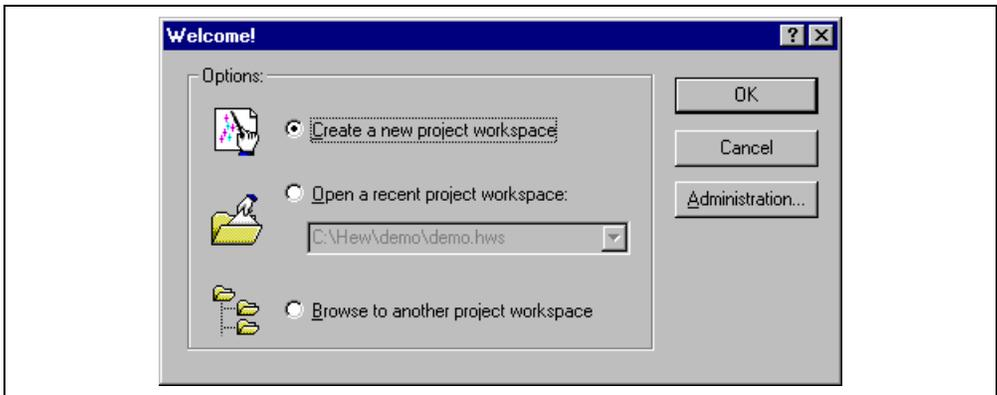
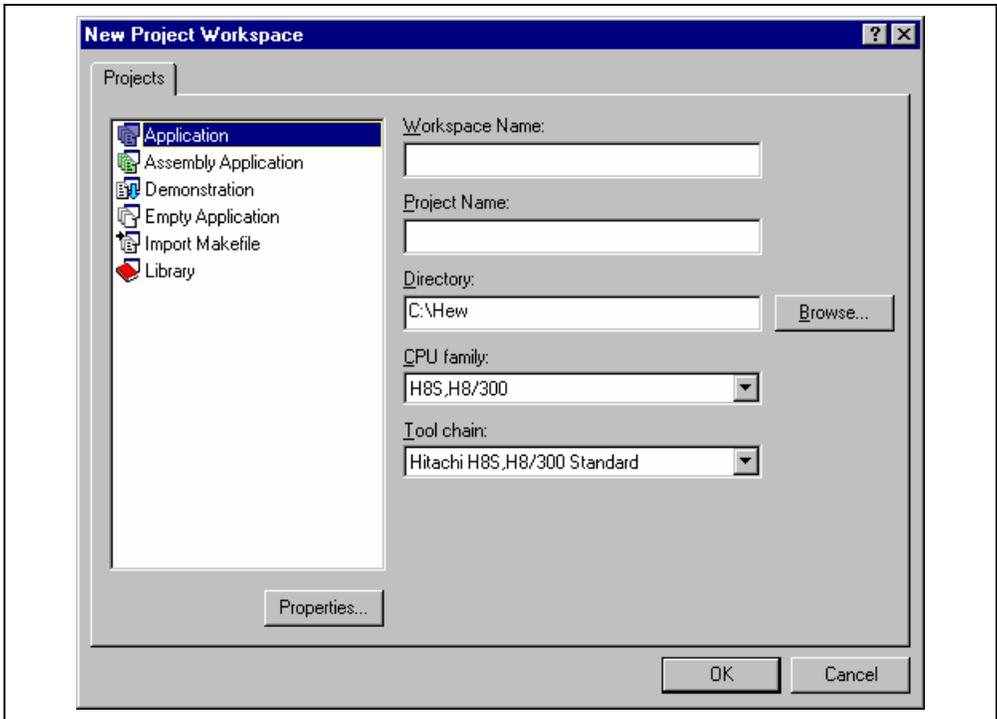

Figure 1.2 Welcome! Dialog Box
Figure 1.3 New Project Workspace Dialog Box
To initiate the HEW, open the [Start] menu of Windows®, select [Programs], select [Renesas High-performance Embedded Workshop], and then select the shortcut of the HEW. The [Welcome!] dialog box shown in figure 1.2 will be displayed by default.
1. Select the [Create a new project workspace] option from the [Welcome!] dialog box (figure 1.2) and click the [OK] button or select [File -> New Workspace...]. The [New Project Workspace] dialog box will be displayed (figure 1.3).
1. Select [Browse to another project workspace] option from the [Welcome!] dialog box (figure 1.2) and click the [OK] button or select [File -> Open Workspace...]. The [Open Project Workspace] dialog box will be displayed.